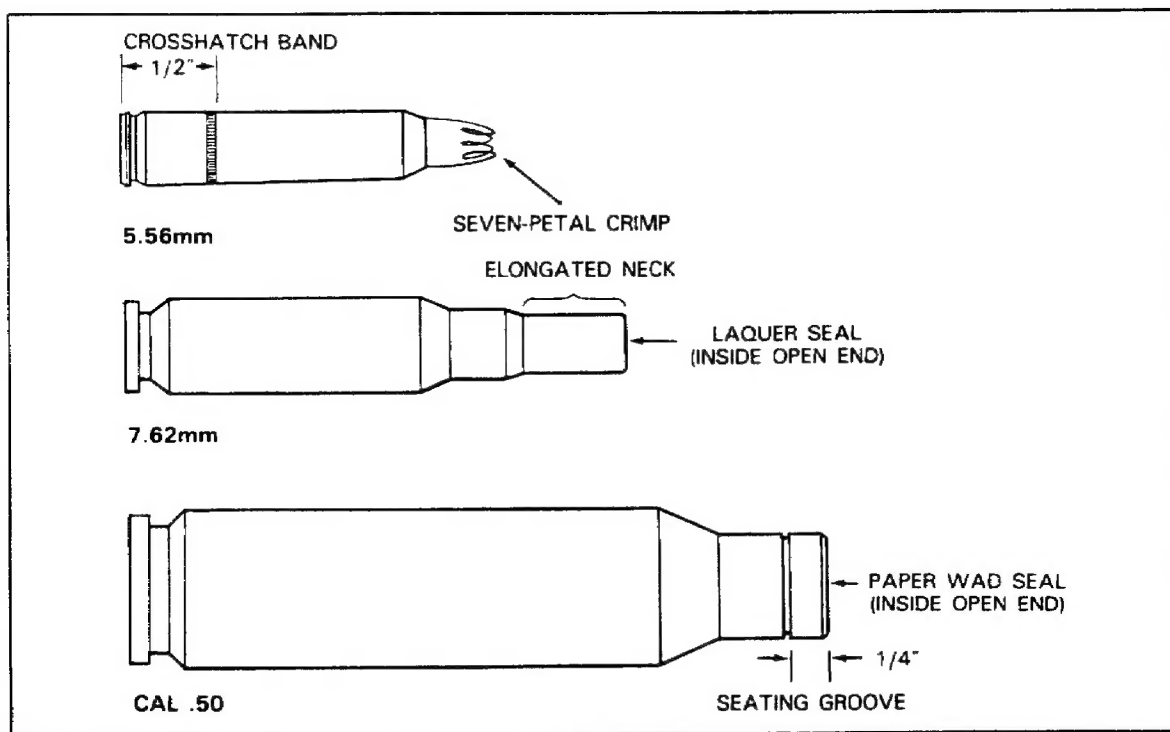

Figure 5. Comparison of Blank Cartridges.
**Blank.** The blank cartridge is distinguished from other cartridges by the absence of a bullet. The blank is used for simulated firing. It consists of a cartridge case, primer, propellant, and a means of sealing the open end. Blank cartridges of various sizes may be distinguished by the different methods of sealing the open end. See Figure 5. Note that the 5.56mm blank has a seven-petal crimp to close the end and a crosshatch band for identification purposes. The 7.62mm blank has an elongated neck and a lacquer seal. The caliber .50 blank has a paper wad seal and a seating groove.